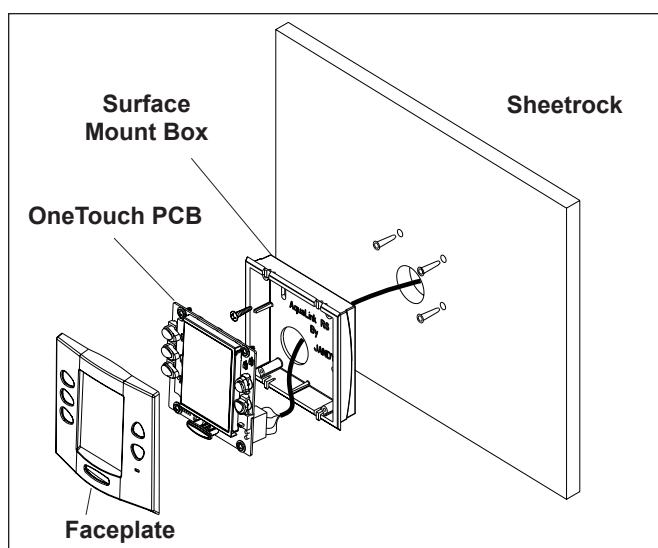

Figure 27. OneTouch™ Surface Mount Installation
3. Run the 4-conductor cable from the power center to the location of the control panel (see Figure 27).